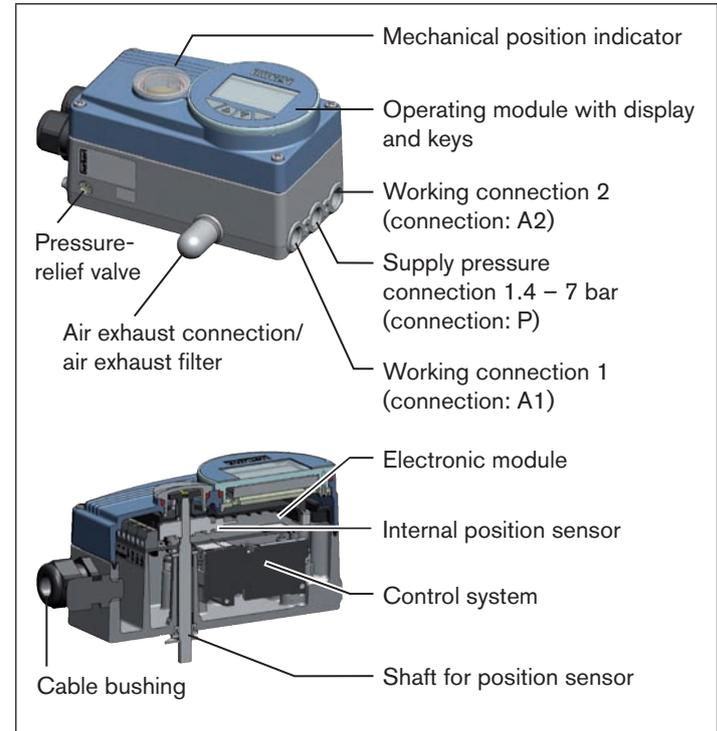

Fig. 1: Structure Type 8792/8793
* If the device is used under IP 67 conditions, the ventilation must be removed and the exhaust air conducted into the dry area (see “Fig. 1”)